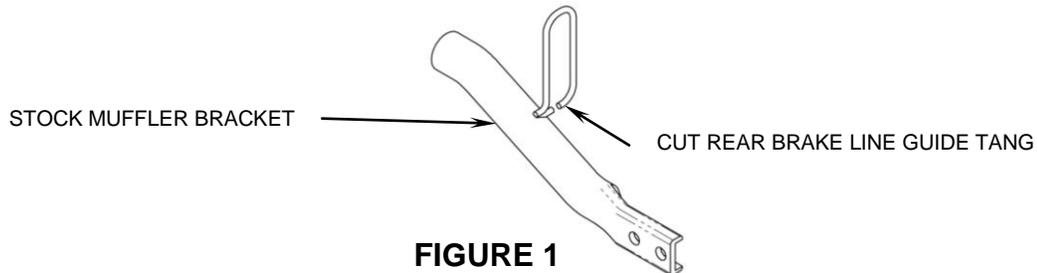

FIGURE 1
4. Remove the stock exhaust mounting bracket and discard. NOTE: The bracket brake line guide must be cut & spread apart so you can remove the brake line from the bracket. Refer to Figure 1.